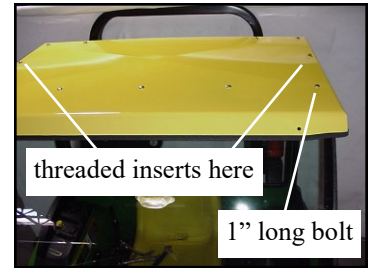

Fig. 7.1 Install Roof
- 7.1 With assistance, install roof as shown using 5/16 x 3/4" long button head screws, plastic washers, steel washers, and locknuts in all holes except the middle ones on the left and right side (these two bolts do not require locknuts). (see fig. 7.1). (Also note: front left, and front right corners take 1" long bolts)